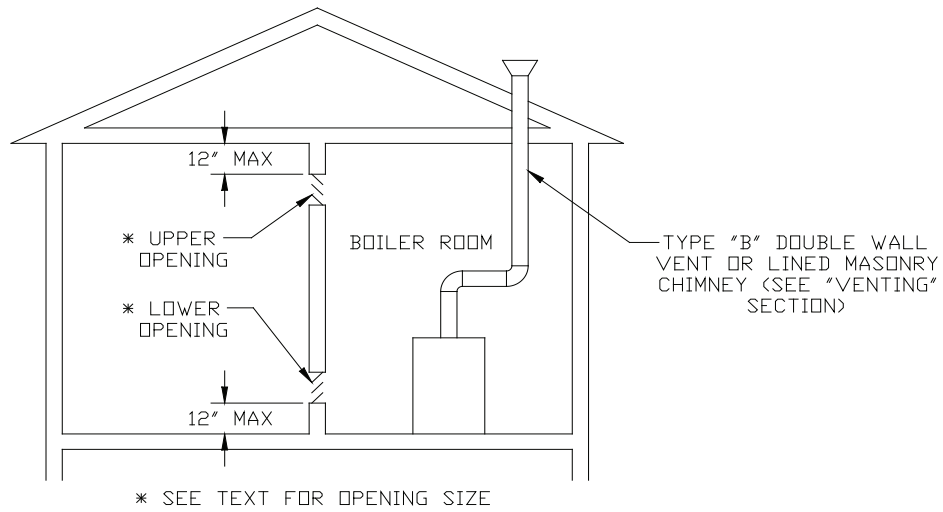

FIGURE 3: BOILER INSTALLED IN CONFINED SPACE,
- 3) **Confined Space** - Provide two openings into the boiler room, one near the floor and one near the ceiling. The top edge of the upper opening must be within 12” of the ceiling and the bottom edge of the lower opening must be within 12” of the floor (Figure 3).